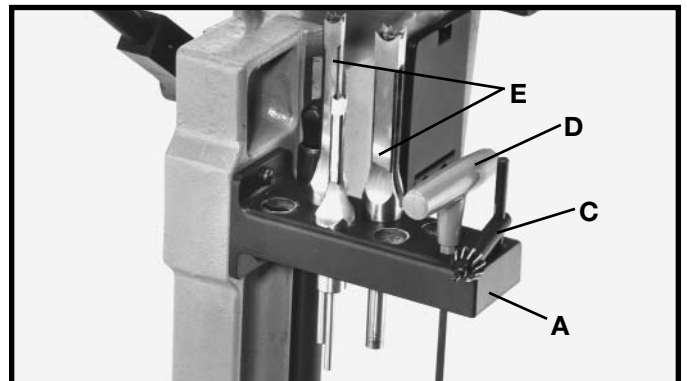

Fig. 15
2. Fig. 15, illustrates the chuck key (C), wrench (D) and chisels and bits (E) in holes of tool and chisel holder (A) when not in use.